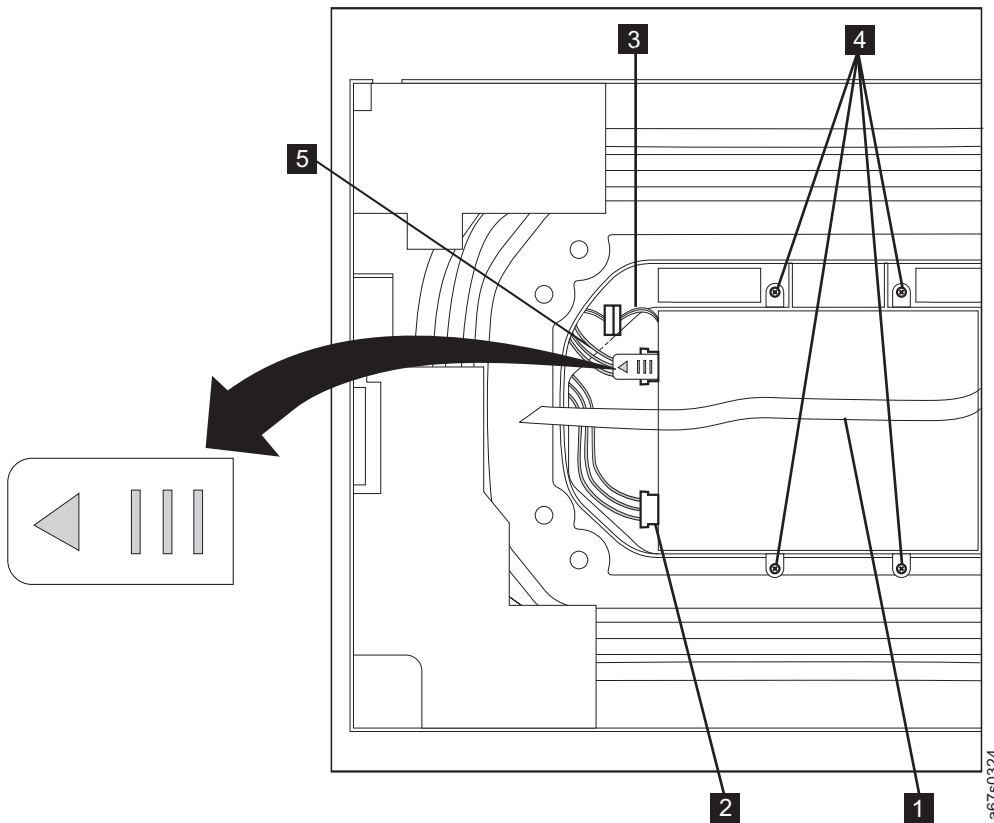

Figure 7. Internal view of drive in the Autoloader
- e. The ribbon cable ( **1** in Figure 7 on page 10) is secured to the top of the drive by adhesive. Loosen the ribbon cable from the top of the drive, then carefully slide the drive from underneath the ribbon cable and out of the chassis.
- b. Remove the three screws from the rear panel (refer to **1** in Figure 7 on page 10).
- d. Remove the 2 screws attaching the bottom cover to the sides of the Autoloader (refer to **2** in Figure 7 on page 10).
- a. Lift the clear tab, squeeze the top and bottom of the cable plug to disengage the plug prongs (located on the underside of the plug) while pulling the fiber cable ( **5** in Figure 7) out of the connector on the back of the drive.
- b. Unplug the power cable ( **2** in Figure 7).
- c. Unplug the RS-422 cable ( **3** in Figure 7). Use a flat blade screw driver to separate the two parts of the connector.
- d. Remove the four screws securing the drive ( **4** in Figure 7).
- e. The ribbon cable ( **1** in Figure 7) is secured to the top of the drive by adhesive. Loosen the ribbon cable from the top of the drive, then carefully slide the drive from underneath the ribbon cable and out of the chassis.